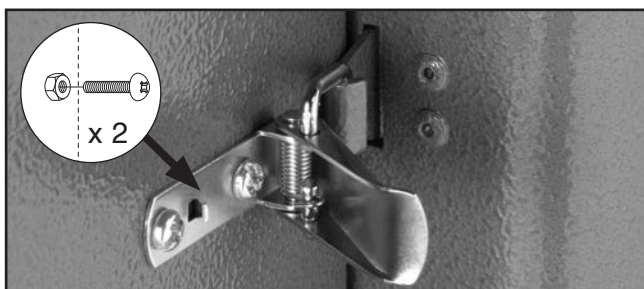

Figure 21. Latch installed.
10. Attach latch to motor cover with (2) #8-32 x $\frac{3}{8}$ " Phillips head screws and (2) #8-32 hex nuts, as shown in **Figure 21**.